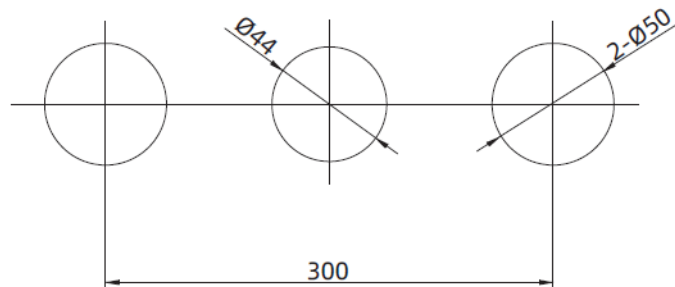

Figure 6 Installation procedure
| 6.3 Installation Process-Figure 6 | 8 |
6.3 Installation Process-Figure 6
6.3.4 Take out the top transmission mechanism, and the tensioning mechanism determines the opening position of the tank top. After the error is correct, follow the installation diagram to open the tank (Figure 6).